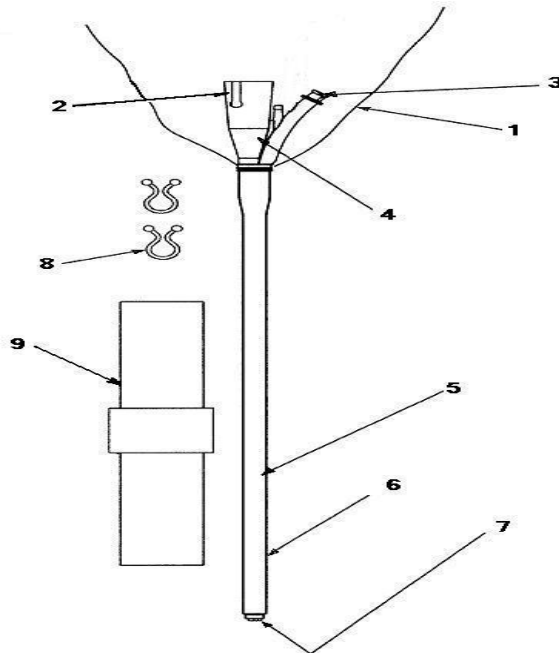

Figure 3-4: CF-1.5 Slide-On® EndoSheath® Technology
- The **CF-1.5 Diagnostic Slide-On® EndoSheath® Technology** (see Figure 3-4 on page 19) has a smaller channel that supports irrigation, but cannot accommodate the insertion of accessory devices. This Sheath is intended purely for diagnostic purposes.
The **CF-1.5 Slide-On® EndoSheath® Technology** (shown in Figure 3-4 below) is also a sterile, disposable barrier for the Cogentix Medical **CST-4000/4000i** Flexible Cystoscope/Hysteroscope. The Sheath isolates the Cystoscope from contact with patient fluid and material during the procedure, supports irrigation, but **does not support accessory instrument passage**.